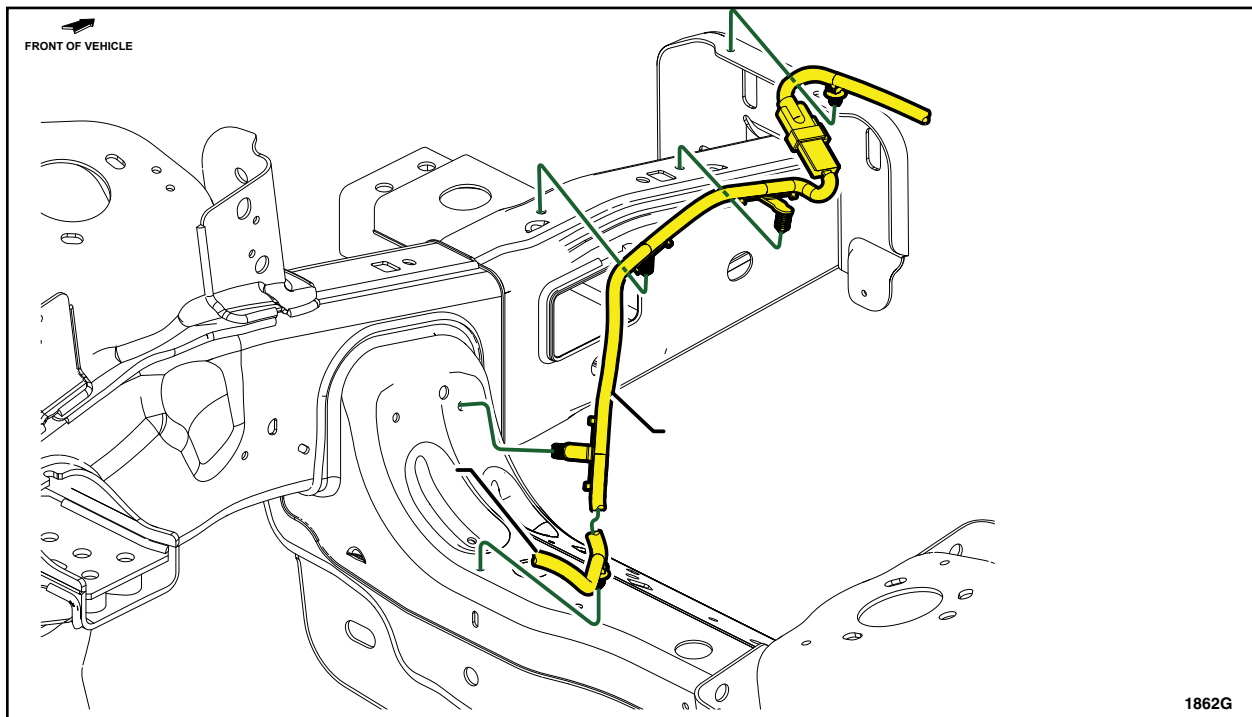

FIGURE 3b
7. Connect the wire assembly in-line connector. See Figure 3b.